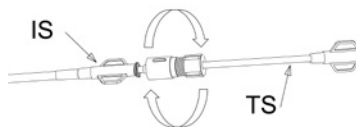

Fig. 10
- Screw the transportation sheath (TS) to the Implantation Sheath (IS) via the luer connector (Fig. 10).